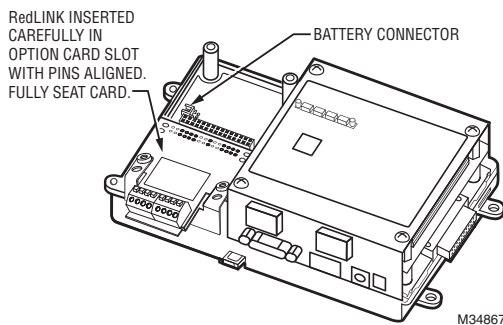

Fig. 3. RedLINK Driver Inserted, End Plate on Top.
6. Place the end plate over the connector/standoffs (See Fig. 3).
7. Plug the battery cable into the battery connector on the controller (See Fig. 3 for location).